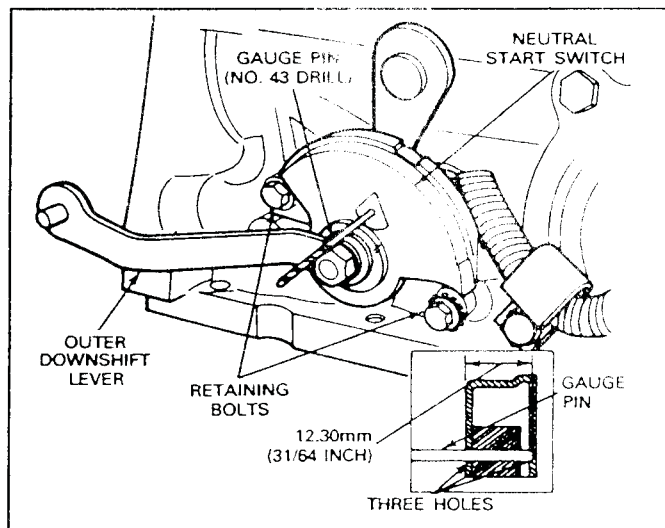

FIG. 6 Neutral Start and Back Up Lamp Switch
2. With the manual linkage properly adjusted, loosen the two switch attaching bolts (Fig. 6).
3. Place the transmission manual lever in NEUTRAL. Rotate the switch and insert the gauge pin (No. 43 drill shank end) into the gauge pin holes of the switch. The gauge pin has to be inserted a full 12.303mm 31/64 inch into the three holes of the switch (Fig. 6).